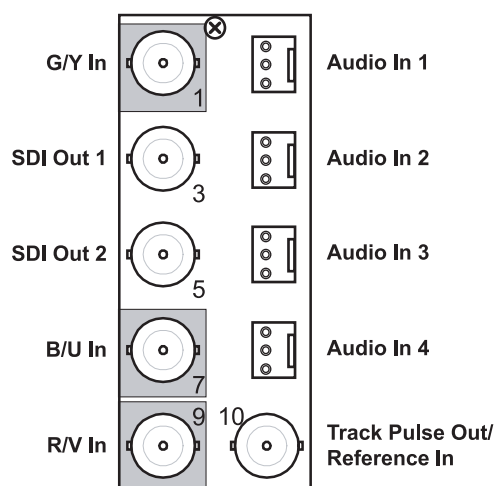

Figure 2.3 Cable Connections for the R1C-8733 and R2C-8733 Rear Modules
- **R1C-8733** Rear Module — Each card occupies one slot and provides four audio inputs, two SDI outputs, one tracking pulse output, and a reference input. Cable your ADC-8733A-C or ADC-8733A-SC according to **Figure 2.3**.
- **R2C-8733** Full Rear Module — Each card occupies two slots and provides four audio inputs, two SDI outputs, one tracking pulse output, and a reference input. Cable your ADC-8733A-C or ADC-8733A-SC according to **Figure 2.3**.
The R1C-8733 and R2C-8733 Rear Modules provide four audio terminal blocks with removable connectors for Audio In 1, 2, 3, and 4. **Figure 2.3** Each connector has locations for the positive, negative, and grounded wires of a balanced analog audio cable.